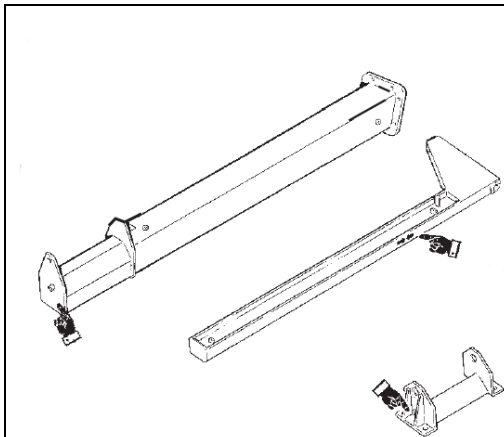

fig.9
- The steel structures of the jib crane (column or bracket or arm) are, generally, supplied without packing; on the columns and brackets there are hooking points to make moving easier during the operations of installation (fig.9).